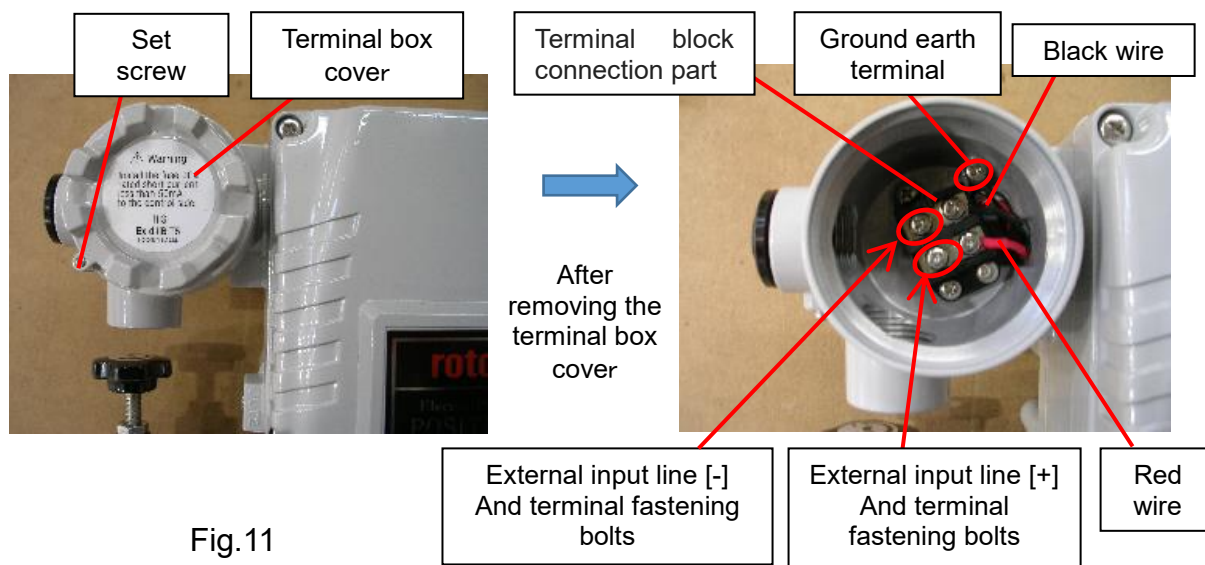

Fig.11
*Terminal wiring method (See Fig.11)
- ① Remove the set screw of the terminal box (Use the hex wrench) and remove the terminal box cover.
- ② Please connect the positive terminal of the terminal block located in the terminal box to the positive line of external input line. (In case of negative terminal, please connect the negative terminal of the terminal block located in the terminal box to the negative line of external input line). To protect the positioner, earth the gland earth terminal. When connecting, please tighten the terminal fastening firmly so that there is no connection failure.
- ③ After connecting the external line, tighten and fix the set screw after closing the terminal box cover. (Tightening torque: $0.25\text{N} \cdot \text{m}$)